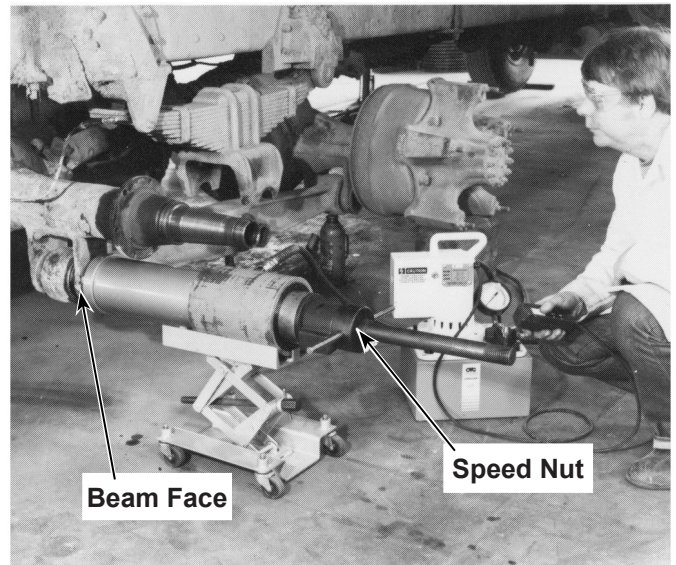

Figure 7
6. Position the hydraulic cylinder assembly up against the beam face, as shown in Figure 7. Install the speed nut on the hydraulic cylinder and adjust the nut to take up any slack. Then apply hydraulic force to extract the hanger tube.